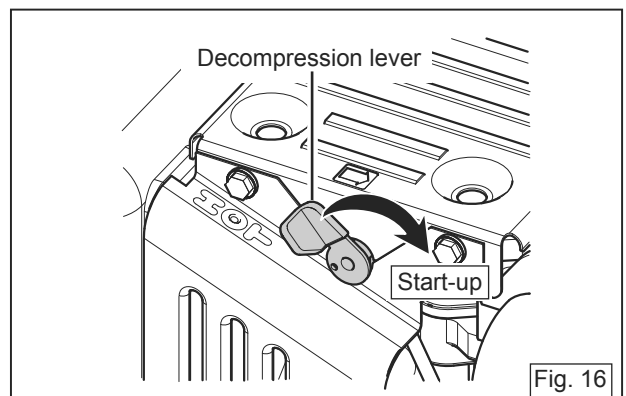

Fig. 16
7. Push down the engine decompression lever to the start position. (Fig. 16)